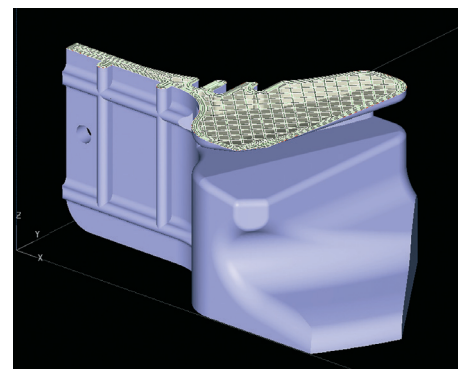

Figure 11: Sparse-double dense part interior style.
- Sparse – double dense (Figure 11)